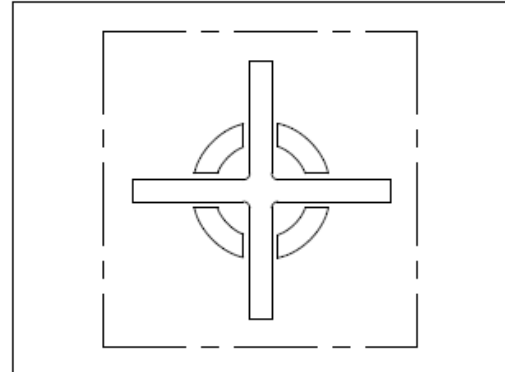

Figure 1-6 Rotation center sign
(5) Rotation center sign, as shown in Figure 1-6.